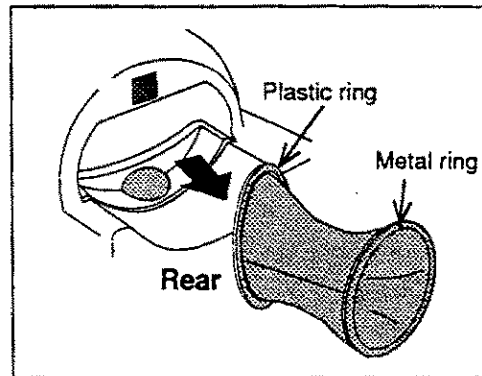

Figure 5-5. Arm cuff cover (5/6)
- 3 Remove the arm cuff cover from the housing case. (See Figure 5-5.)